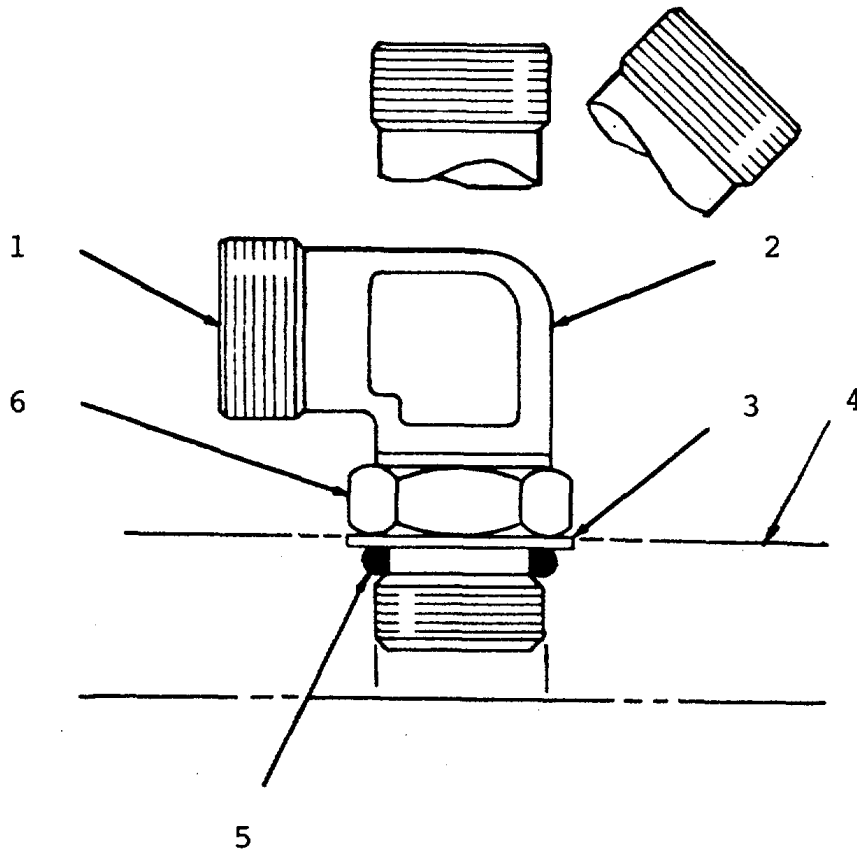

Figure 5-26. Hydraulic Hose and Valve Assembly
**REPLACEMENT** (Figure 5-26.)